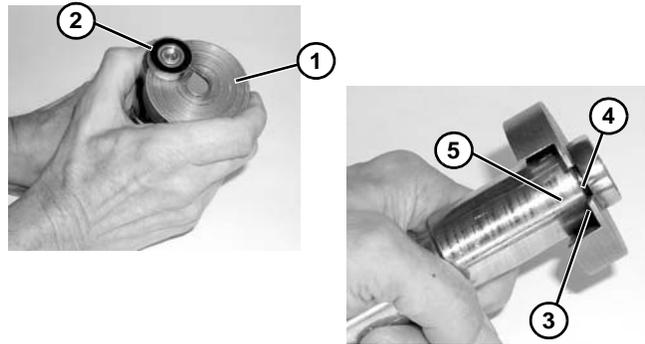

Figure 123
1. Place bearing removal tool part #456063 (Figure 123, item 1) below bearing (Figure 123, item 2) with lip (Figure 123, item 3) located in gap (Figure 123, item 4) between bearing and spindle hub (Figure 123, item 5) as shown.